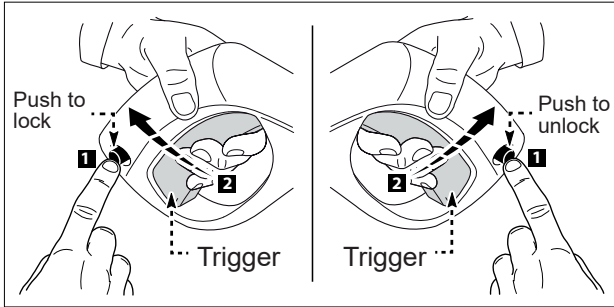

Fig. 7
- To lock the trigger of the spray gun aim the gun away from you and push the lock button from right to left, (Fig. 7), after doing so, squeeze or pull the trigger to make sure it is locked and will not move. Always leave lock button in lock position when not in use. This ensures the gun is in "safe" mode until it is ready for use.